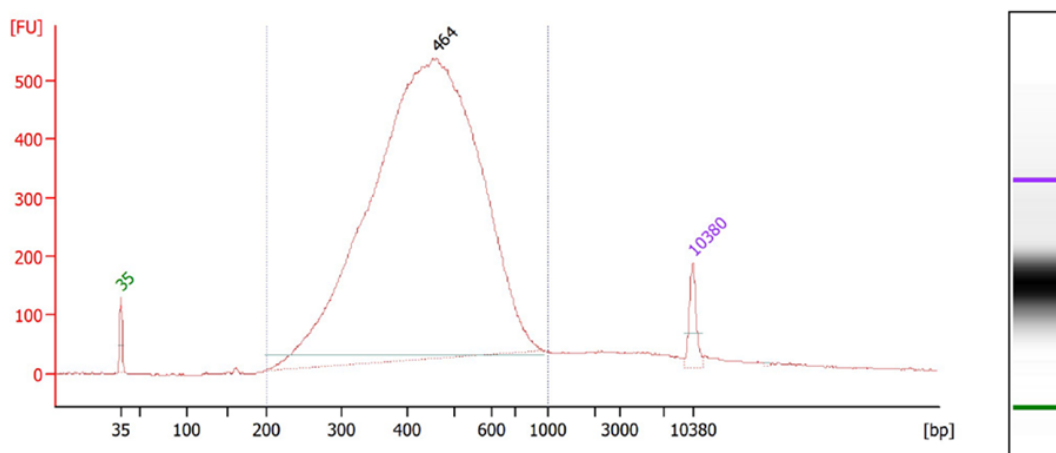

Figure 6. Agilent 2100 Bioanalyzer fragment size distribution of the purified PCR product
- j. Take 1 μ L of purified PCR product and measure the concentration with Qubit dsDNA HS Kit. Use Bioanalyzer, TapeStation (Agilent Technologies), LabChip[®] GX, GXII, GX Touch (PerkinElmer), Fragment Analyzer[™] Advanced Analytical) or other equipment based on the principle of electrophoretic separation to detect the fragment distribution of the purified PCR products. The main peak of fragment distribution is required to be 200-600 bp (Figure 6). Normally, the PCR yield is higher than 100 ng.